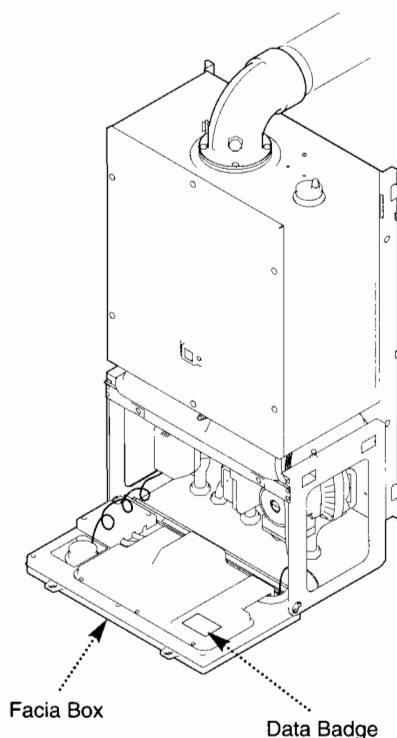

Fig. 2
6. The boiler data badge is positioned on the back face of the facia box (Fig. 2).